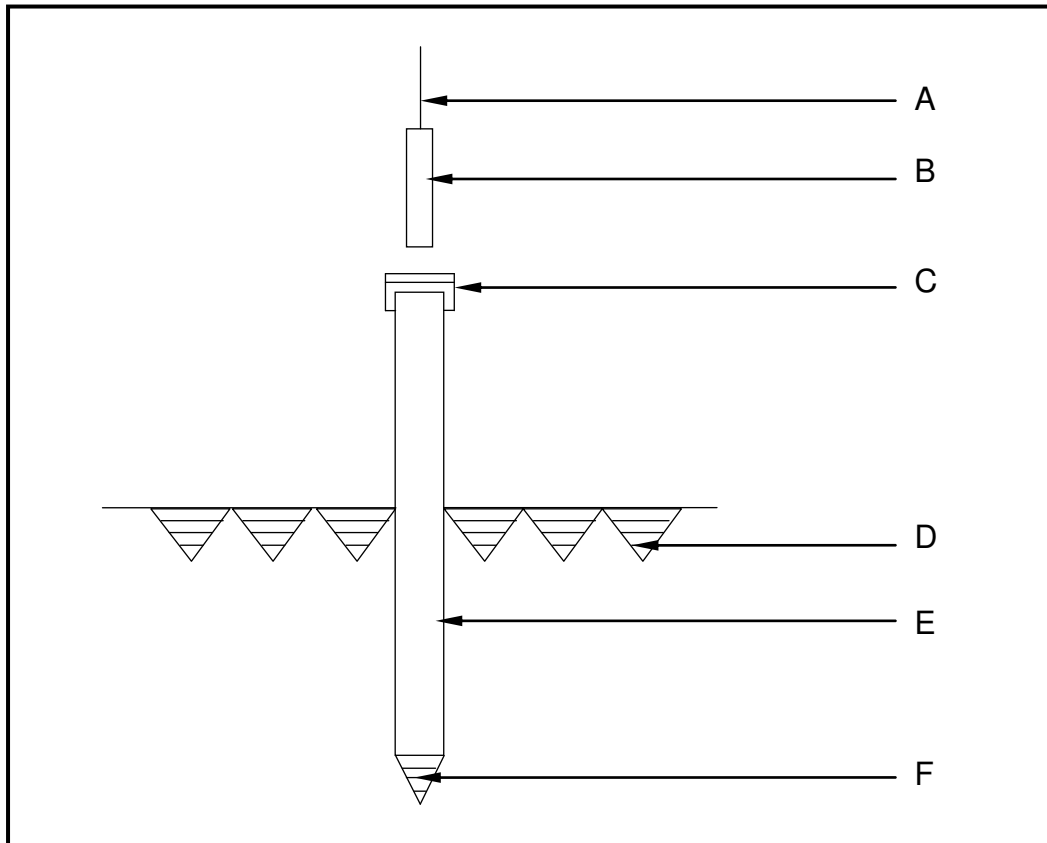

FIGURE 6.3
- 6.3 FIGURE 6.3 below shows a pile being percussion-driven into the ground.
- 6.3.1 Identify the type of pile foundation illustrated in FIGURE 6.3. (1)